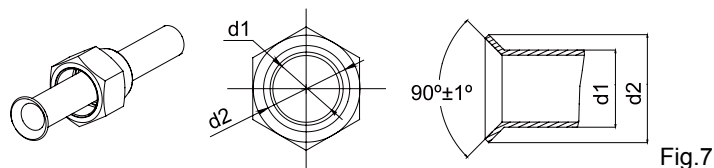

Fig.7
- (1). Cut the connection pipe with the pipe cutter and remove the burrs.
- (2). Hold the pipe downward to prevent cuttings from entering the pipe.
- (3). Remove the flare nuts at the stop valve of the outdoor unit and inside the accessory bag of the indoor unit, then insert them to the connection pipe, after that, flare the connection pipe with a flaring tool.
- (4). Check if the flare part is spread evenly and there are no cracks (see Fig.7).